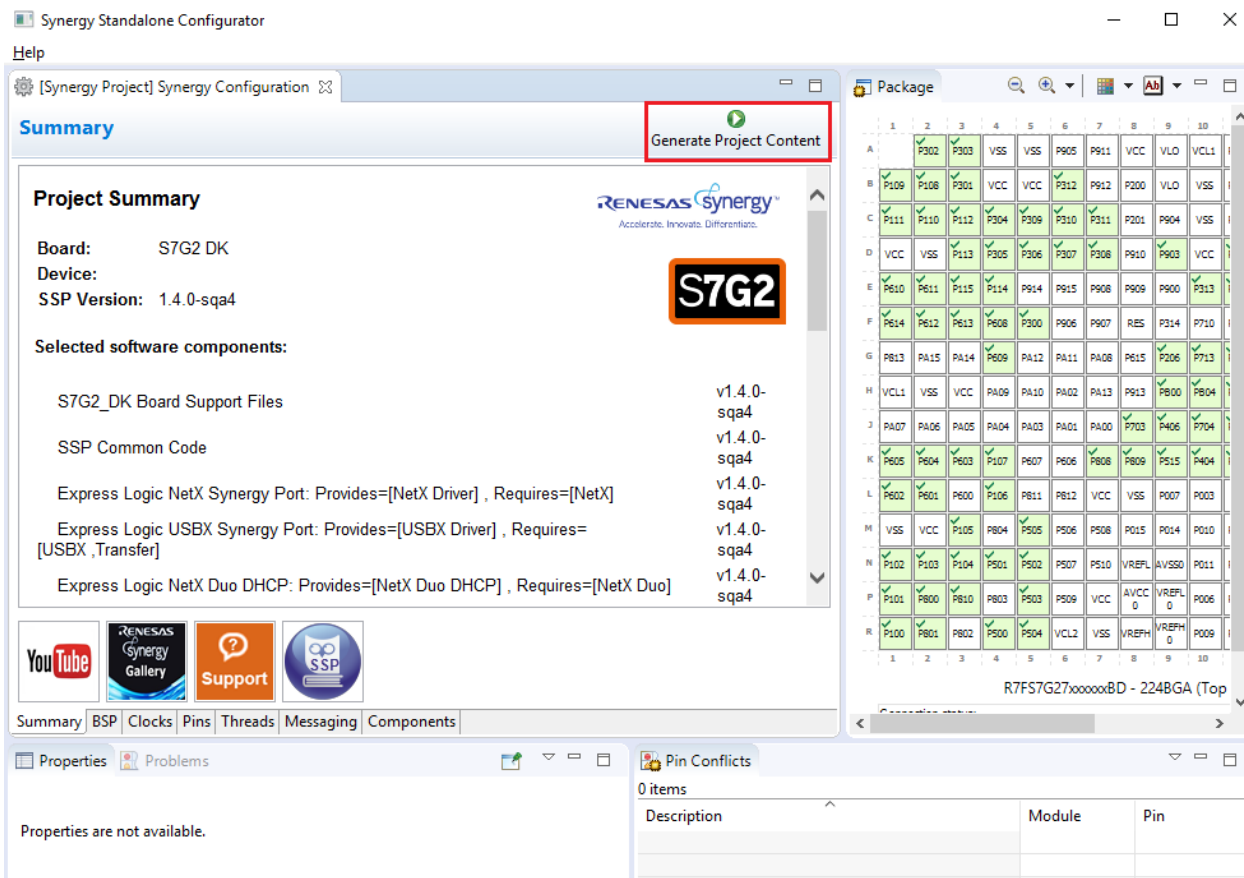

Figure 1.8 Generate Project Content button
- In the Synergy Standalone Configuration window (Figure 1.8), click the **Generate Project Content** button.